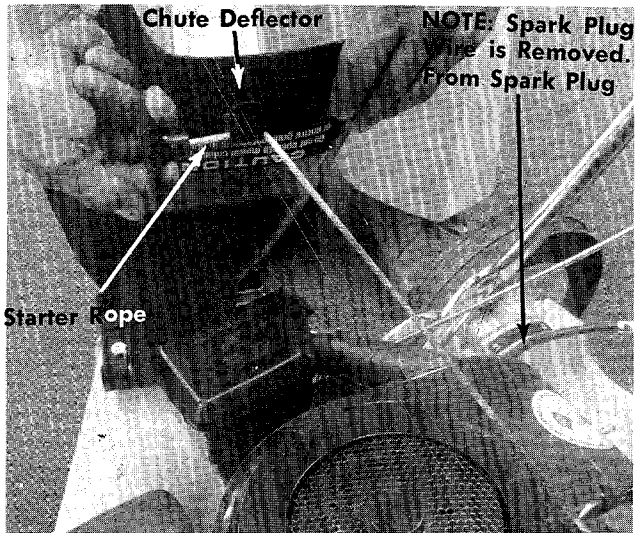

FIGURE 15. SECURING DEFLECTOR FOR ASSEMBLY
1. As an added safety precaution, remove the spark plug wire as shown in figure 15.
5. Lift the chute up and hold in place with the starter rope. See figure 15.